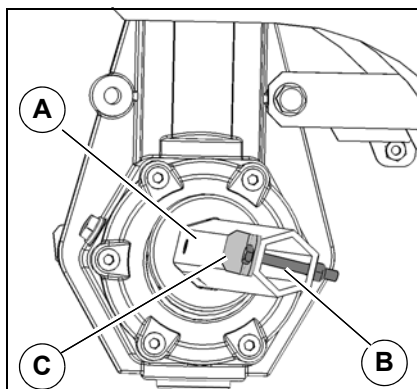

Fig. 160:
2. The sweeping rollers are fastened to the support tube **Fig. 160-A** with screw **Fig. 160-B**, washer and angle plate **Fig. 160-C**. Loosen the screw and take everything off.